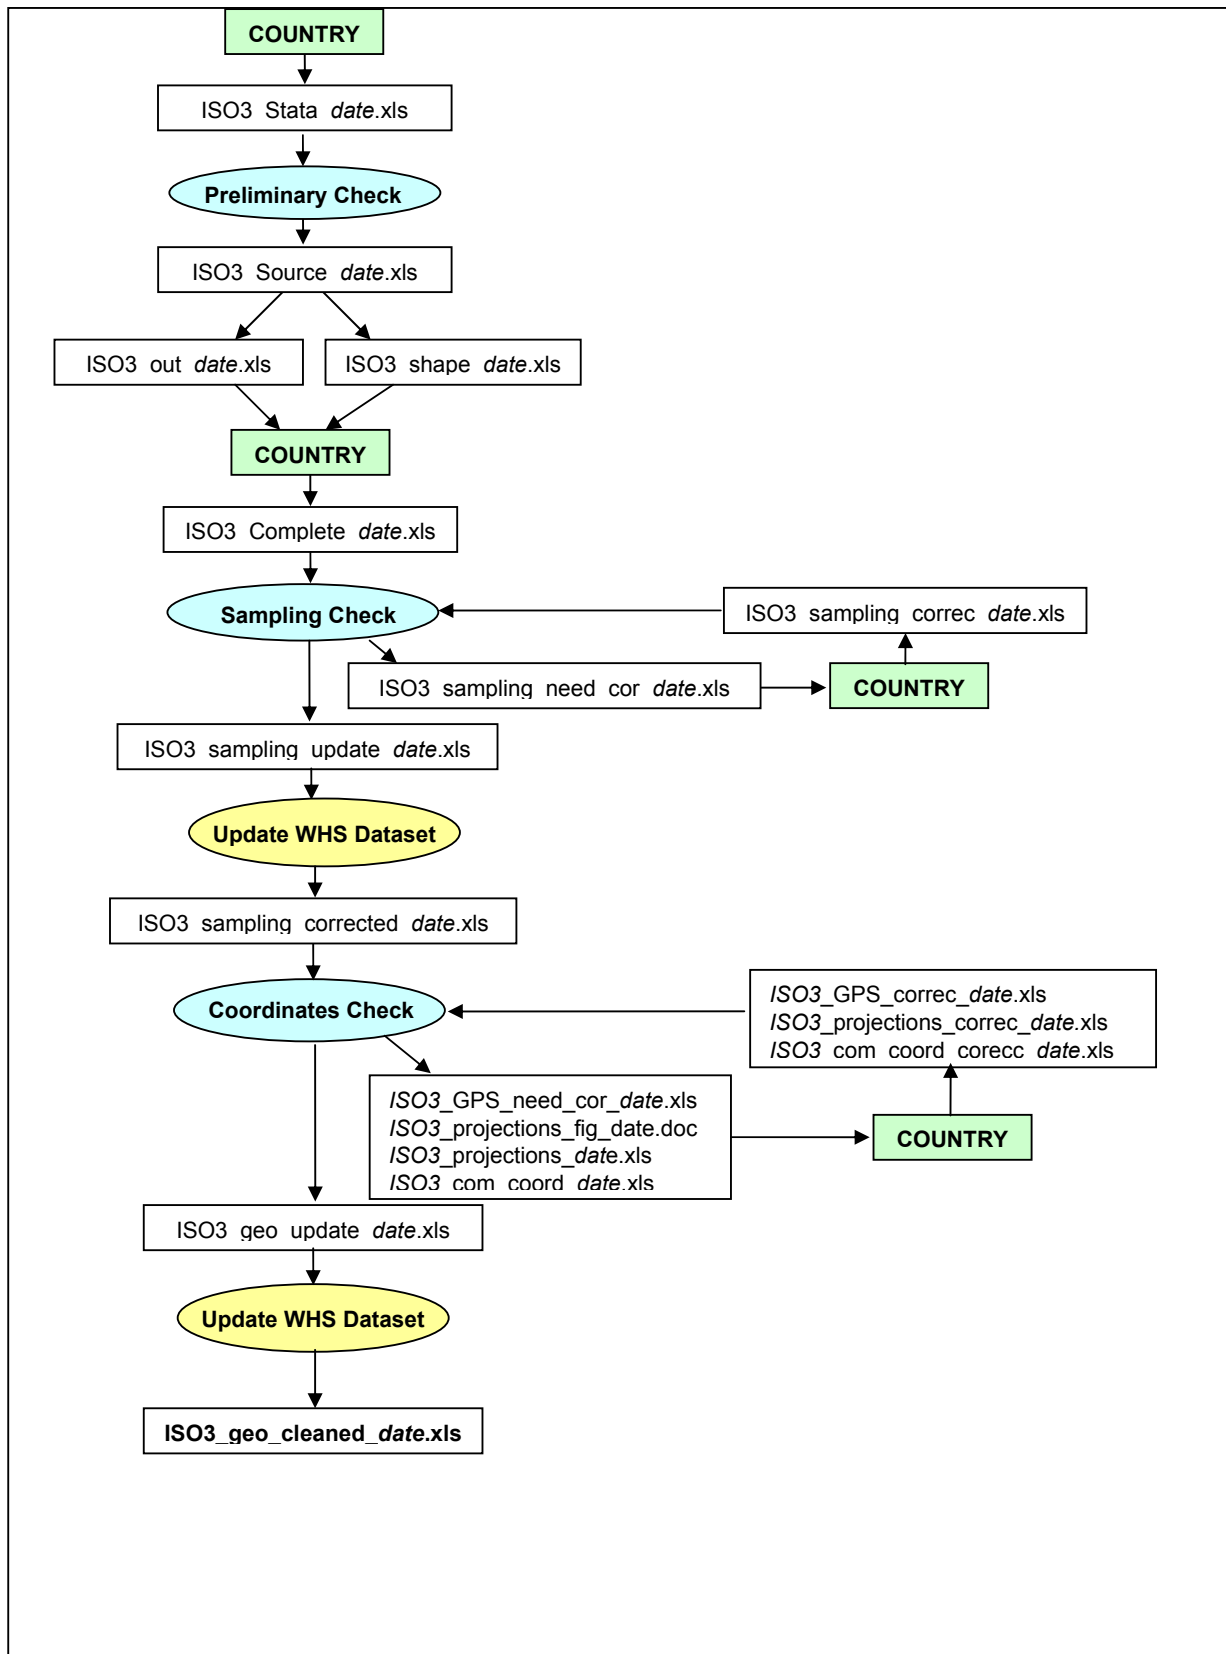

Figure 4 - Process and naming convention used in the context of this protocol
| Figure 4 - Process and naming convention used in the context of this protocol..... | 4 |
The whole process followed in the context of this protocol is illustrated in the Flow Chart reported in Figure 4.
- a key correspondence table allowing to make the link between the codes reported in the dataset and the labels of the different sampling units. The key correspondence table is saved under the form of an Excel table named *ISO3_Samp_key_table_date.xls* located in the folder "Sampling" (Figure 4).